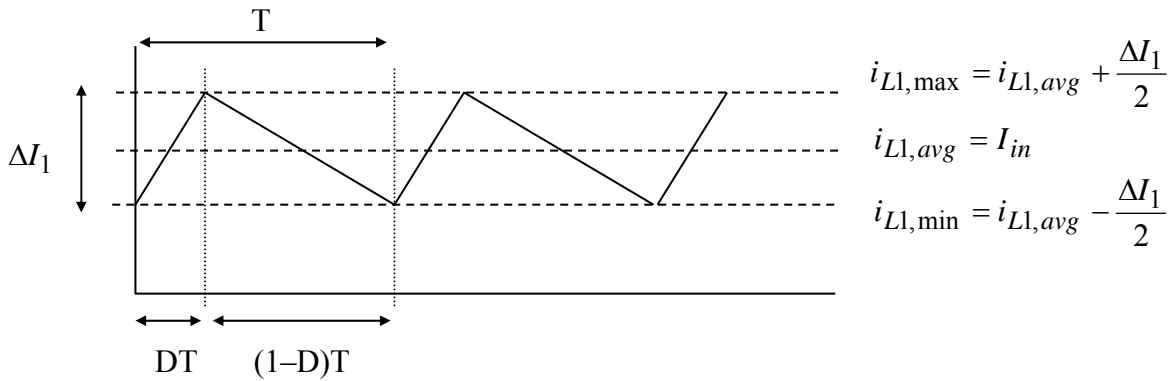
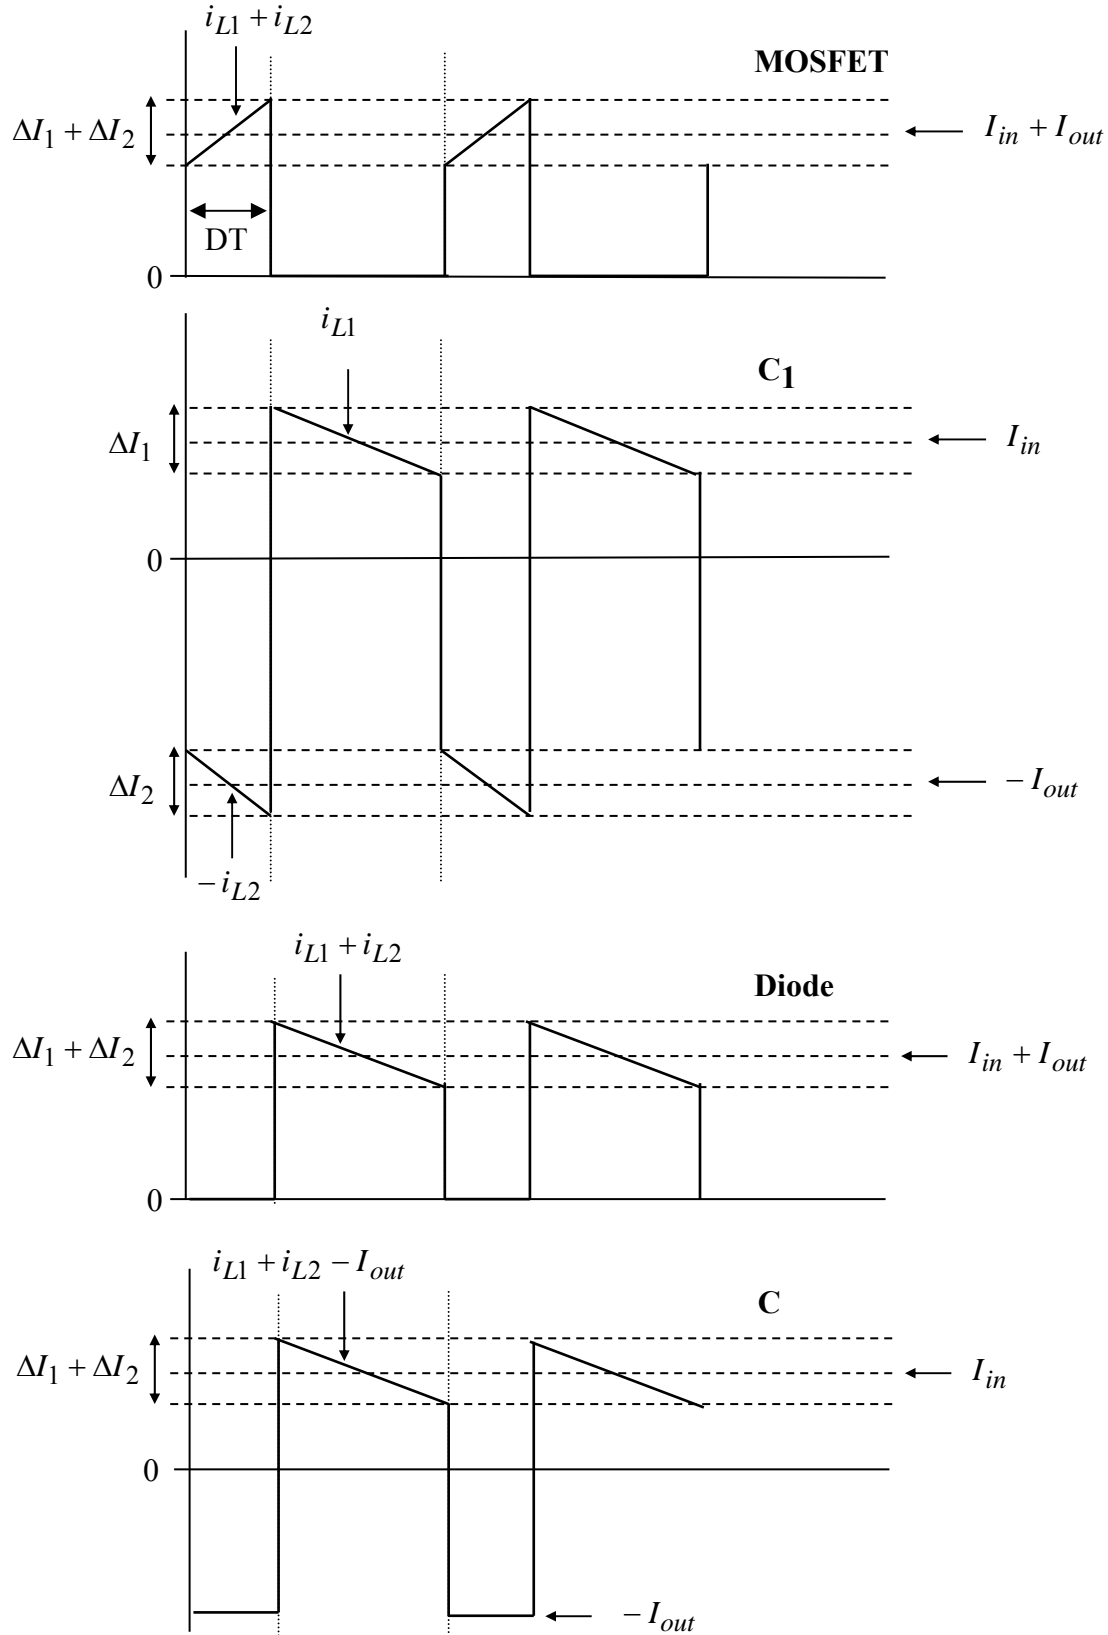

Figure 4. Inductor  $L_1$  Current Waveform for Continuous Conduction
Figure 8. Current Waveforms for MOSFET, Capacitors, and Diode in Continuous Conduction
The graph of  $i_{L1}$  is shown in Figure 4. For photovoltaic (PV) applications, it is desirable to have low ripple in  $i_{L1}$  to keep the solar panel operating at the peak of its maximum power curve.
From Figure 4 and Equation (4), when the switch is open (i.e.,  $L_1$  is discharging),
Continuous current waveforms for the MOSFET, the capacitors, and the diode in continuous conduction are shown in Figure 8 on the following page. Corresponding waveforms for the inductors were shown previously in Figures 4 and 6.
For the MOSFET and diode, assuming large worst-case  $D$ , and using Figure 8,
For  $C_1$  and  $C$ , using Figure 8,
The maximum ripple voltage calculation for output capacitor  $C$  follows from Figure 8 and is the same as for the boost converter, namely
Comparing the current graphs for  $C_1$  and  $C$  in Figure 8 during the  $DT$  “switch closed” period, it can be seen graphically that the ripple voltage on  $C_1$  and  $C$  are the same, i.e. Equation (22).